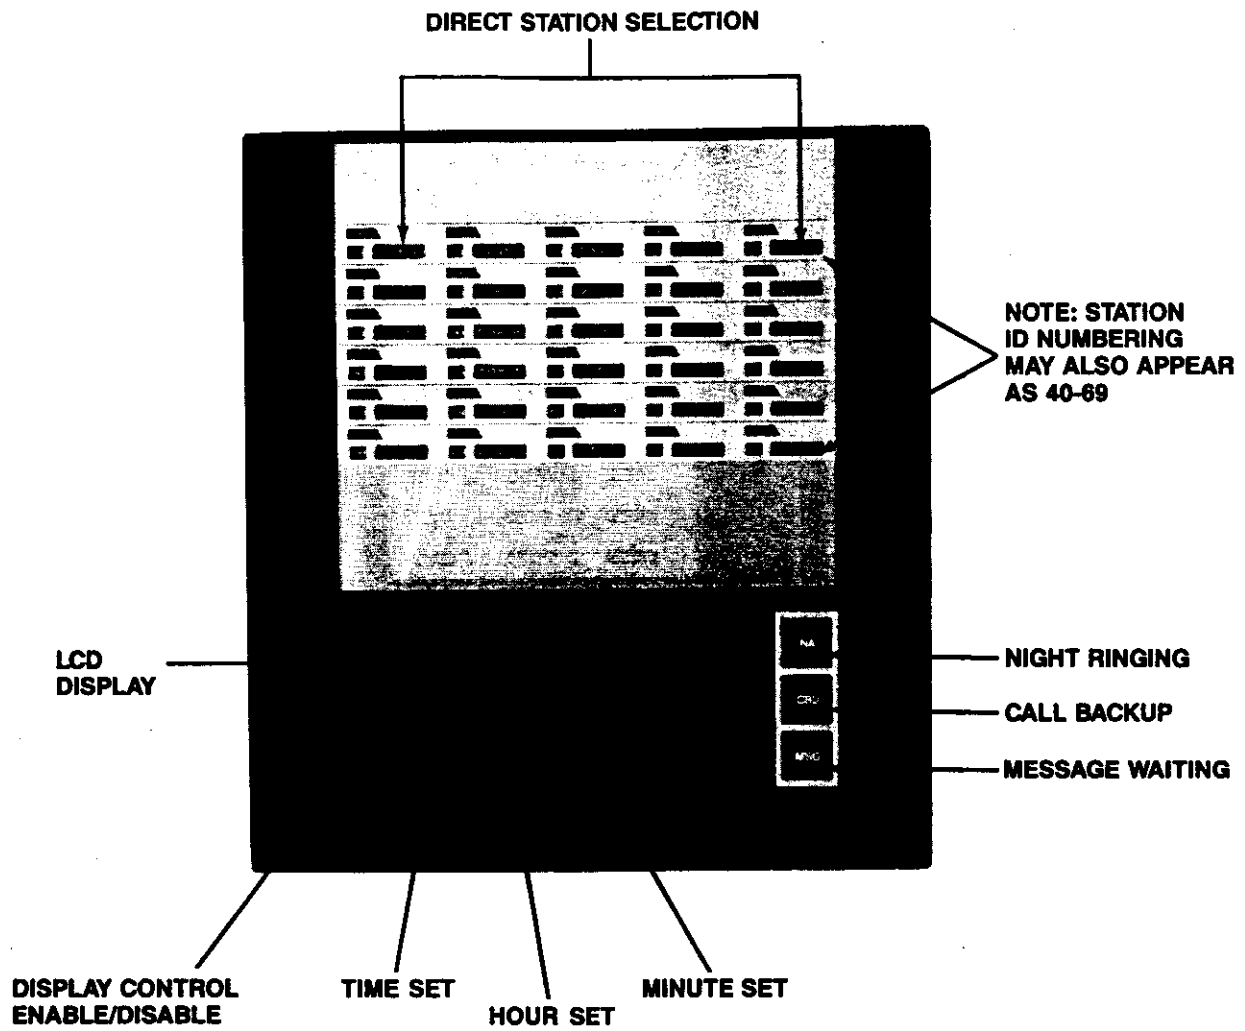

Figure 3-7. Direct Station Select/Busy Lamp Field.
- Figure 3-7 -- Direct Station Select/Busy Lamp Field